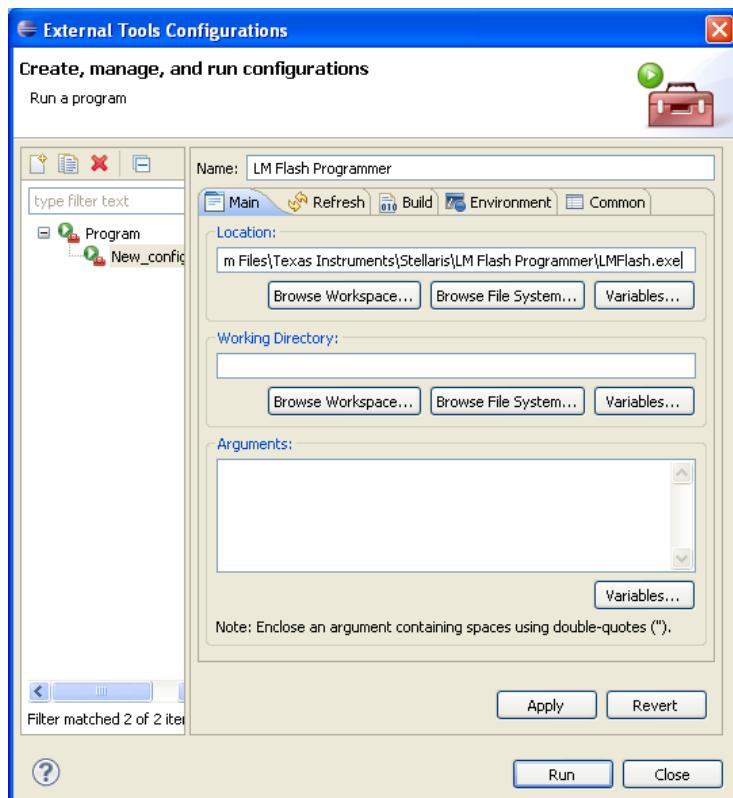

Figure 11.23 External Tools Configuration
- A window similar to that shown in Figure 11.23 should be displayed.